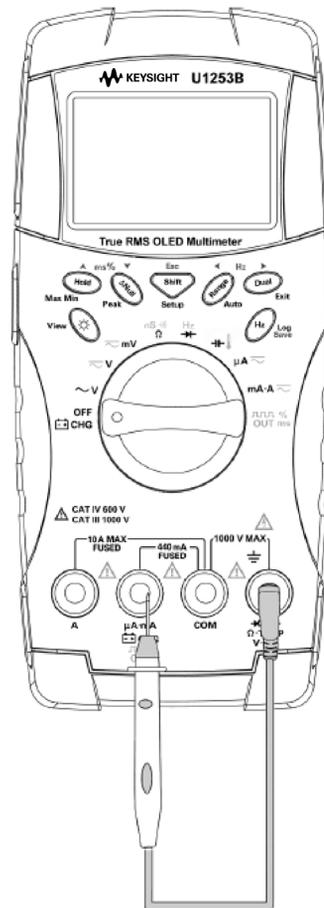

Figure 5-8 Fuse checking procedures
- 3 To test Fuse 1, place the tip of the test probe on the right half of input terminal **$\mu\text{A}\cdot\text{mA}$** . Ensure that the probe tip touches the metal inside the input terminal, as shown in Figure 5-8.